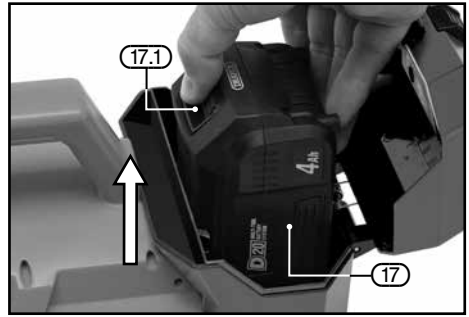

FIG.5
9.1 BATTERY PACK CHARGING – FIGS. 5 – 6
- Press the battery release button (17.1) and gently slide the battery pack off (Fig.5).
- Plug the battery charger (18) unit into a 230V/AC 13amp three pin supply socket.